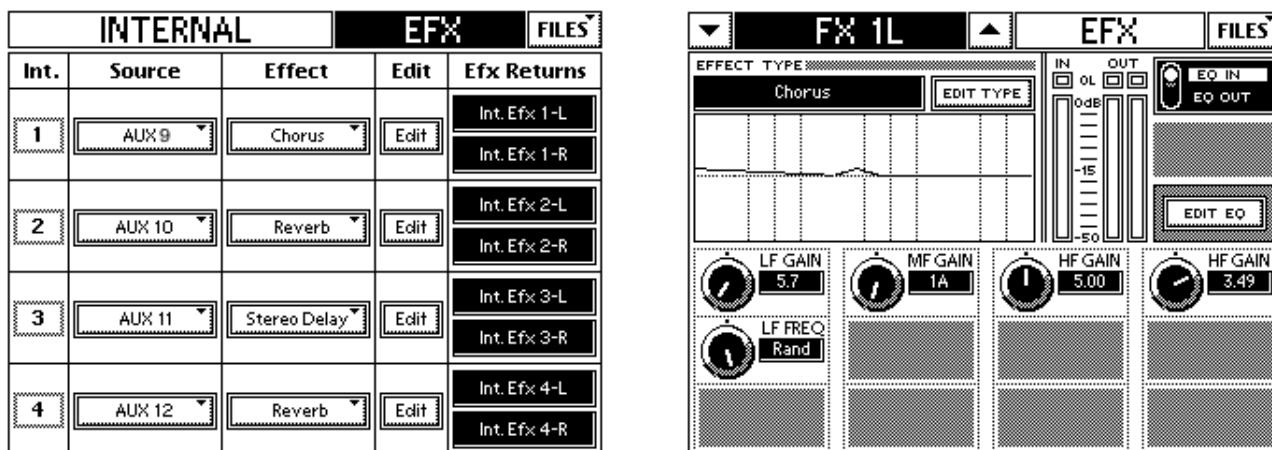

Figure 2-10 Internal Effects and Chorus screens
The INTERNAL EFX Touchscreen opens (left of Figure 2-10).
5. Touch the **Edit** button next to Chorus to edit its parameters on its own screen (right of Figure 2-10).